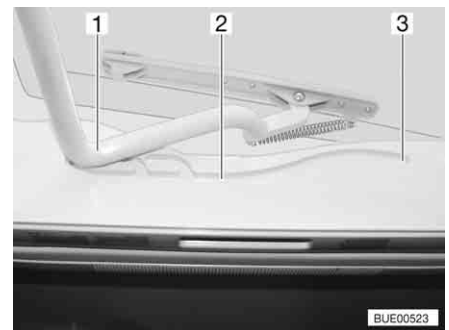

Fig. 59 Heki skylight, guide
- Pull the bar (Fig. 59,1) in the guides (Fig. 59,2) to the rearmost position (Fig. 59,3).
- Use both hands to push the bar (Fig. 59,1) slightly upwards.
- Pull the bar in the guides (Fig. 59,2) to the desired position.